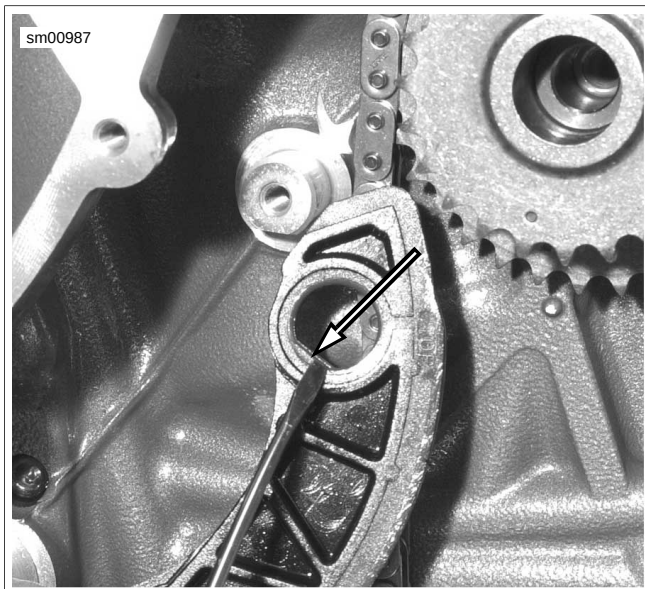

Figure 3-31. Primary Chain Fixed Tensioner
4. See Figure 3-31. Install primary chain fixed tensioner. Note the flat in the chain tensioner bore and the flat on the mounting shaft in the case.